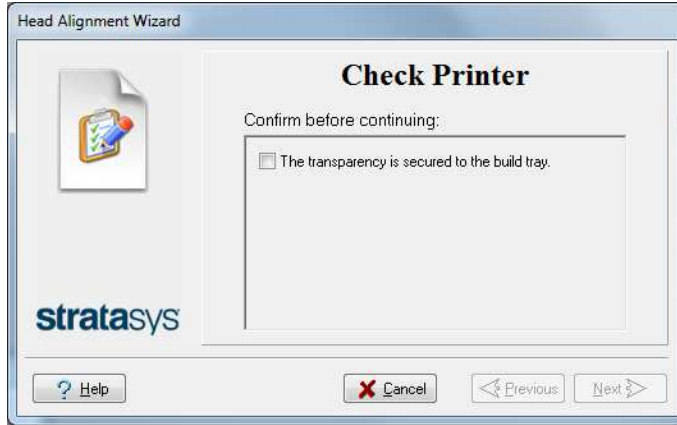

Figure 6-48 Head Alignment wizard—steps 8–10
10. In the wizard screen shown in Figure 6-48, select the *Transparency removed* check box, and click *Next*.